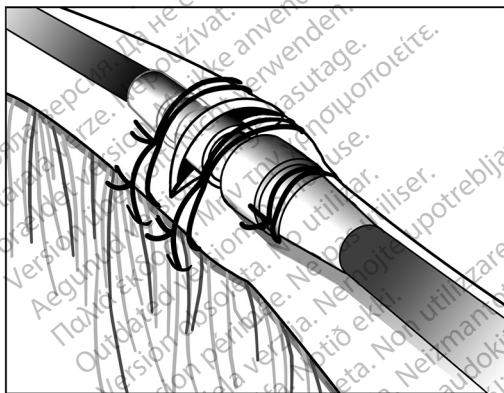

Figure 9. Example of suture sleeve, venous cutdown technique
- Using the same groove, secure the lead and vein to the adjacent fascia (Figure 9 Example of suture sleeve, venous cutdown technique on page 21).